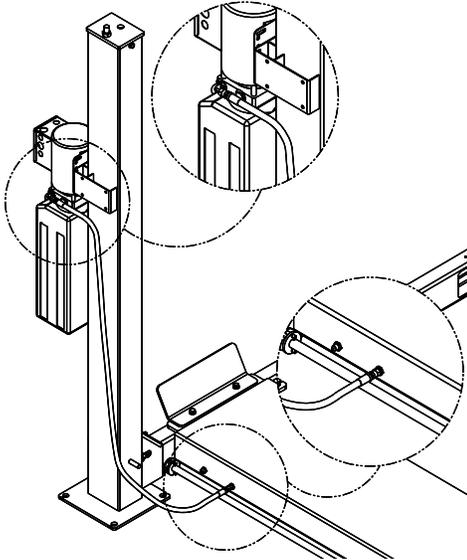

Fig 16 – Supply Line, Front
- 33) For installs on the front of the column (**Fig 16**), rout the power unit supply line to the bulkhead shown below. Attach the 90